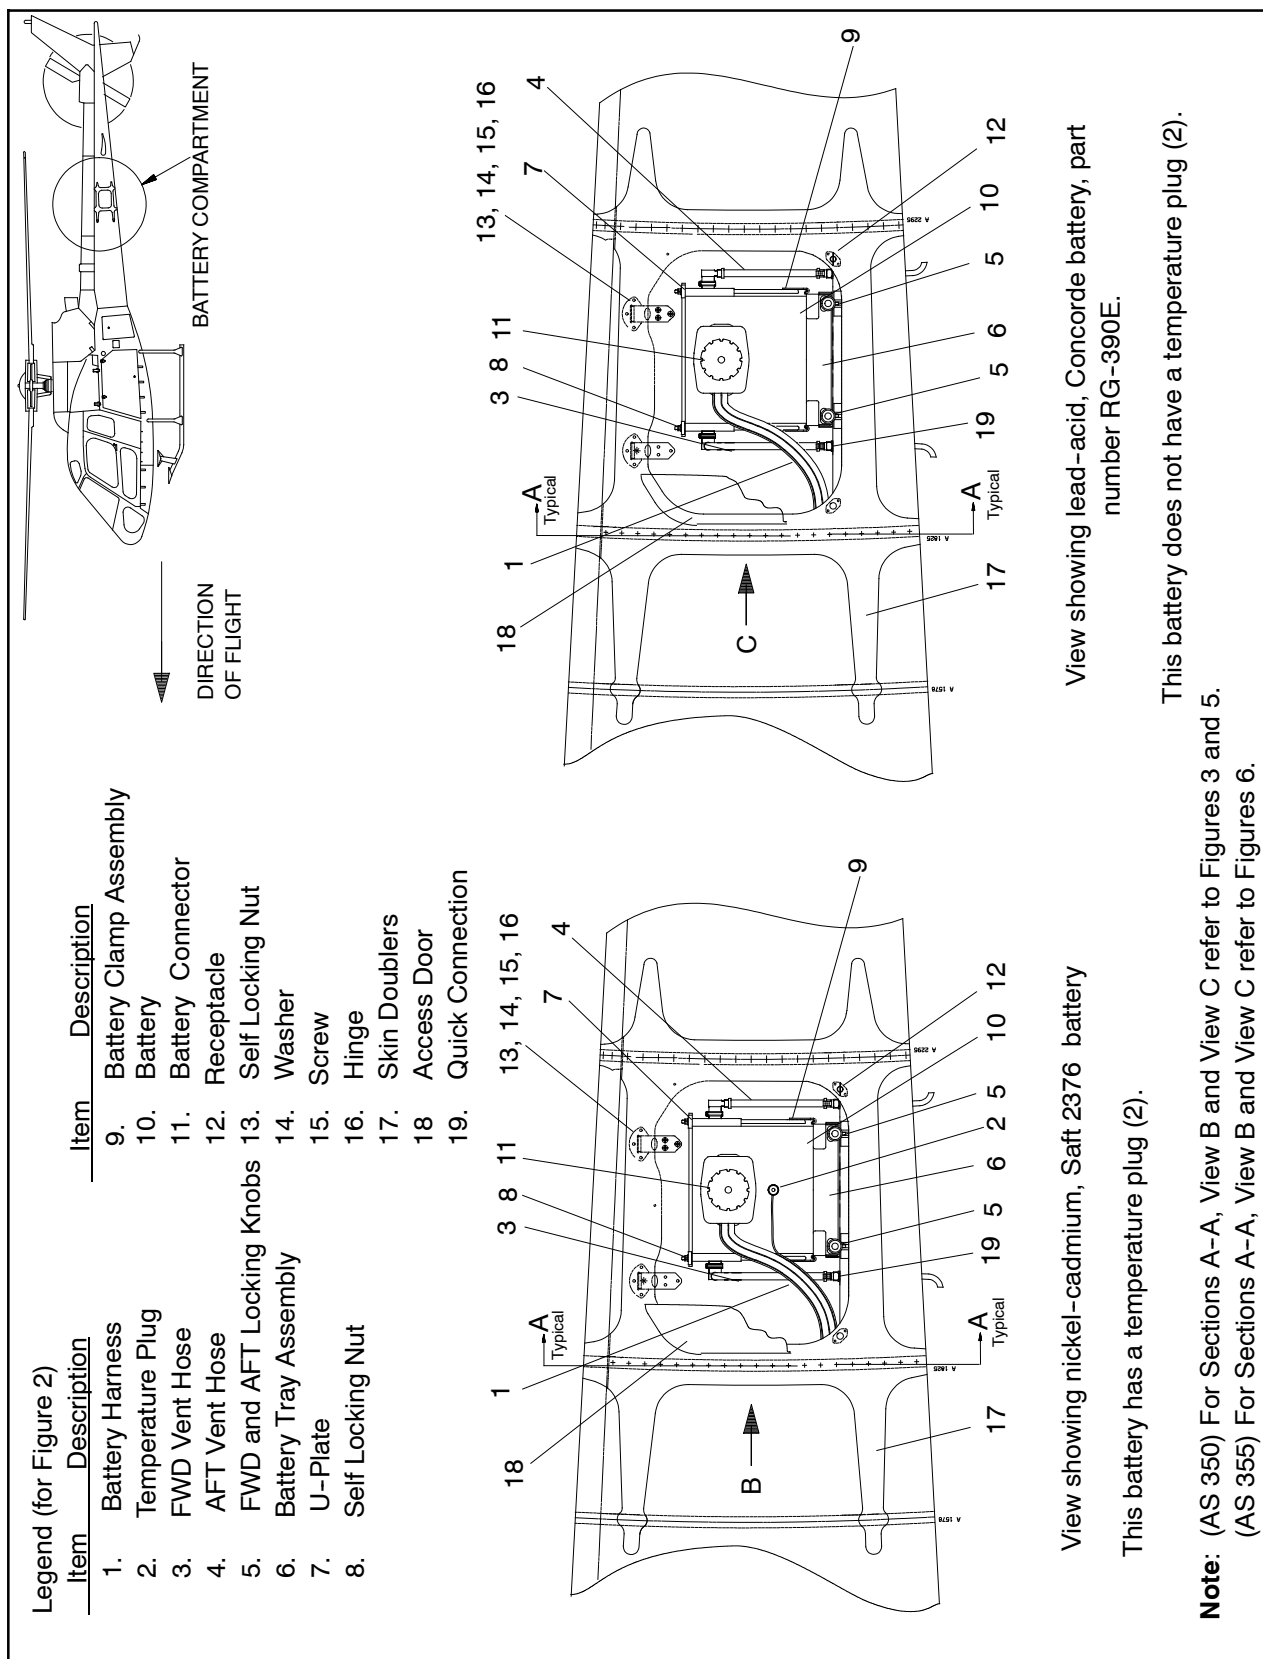

Figure 2 AS 350 and AS 355 Battery Compartment (main views)
- Battery Tray Assembly (Refer to Figure 2)
- Battery Harness (Refer to Figure 2)
- Skin Doublers (Refer to Figure 2)
For VIEW B and VIEW C locations refer to Figure 2.
**Note:** For Section A-A, VIEW B and VIEW C locations refer to Figure 2.